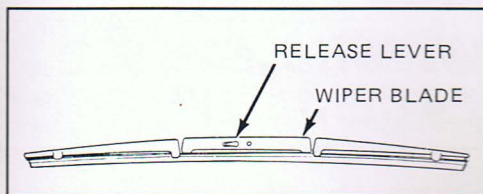

Figure 1 - Wiper blade release lever
3. Locate the release lever, which is located approximately in the middle of the blade. See Figure 1.